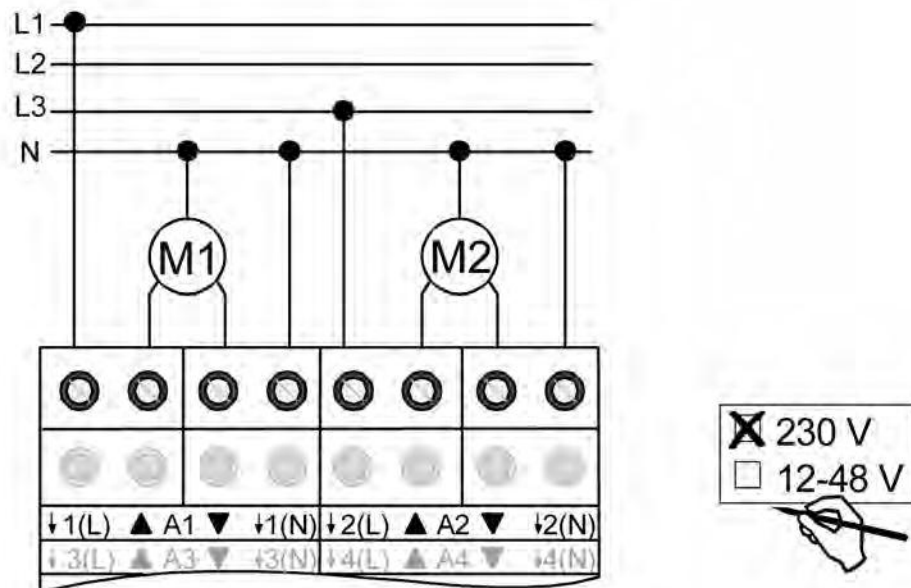

Figure 6: Electrical connection for 230 V drive motors for automatic limit position detection
- Connect the drives as shown in the wiring example (figure 6).